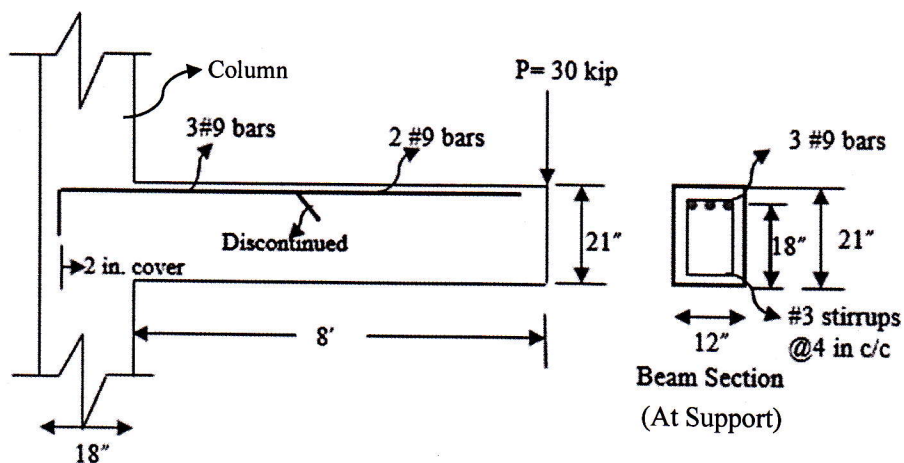

Figure 8
- 9.(a) Narrate the necessity of hook and anchorage for plain and deformed bars. (3)
- (b) The beam of Figure 8 cantilevers from a supporting column at the left. It is adequately restrained at beam-column joint and therefore can be assumed to be fixed at the column face. If the beam carries a concentrated load  $P=30$  kip (Unfactored), calculate the point where the center rebar can be terminated. Check to be sure that adequate embedment length is provided for both continued and discontinued bars. (5)